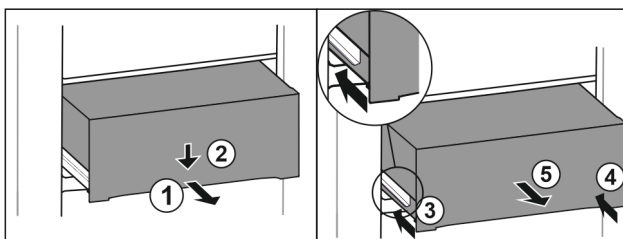

Fig. 135
- ▶ Pull out drawer half-way. Fig. 135 (1)
- ▶ Push the drawer down at the front. Fig. 135 (2)
- ▶ Push the left rail in by about 2 cm. Fig. 135 (3)
- ▶ Push the right rail in by about 2 cm. Fig. 135 (4)
- ▶ Remove drawer to the front. Fig. 135 (5)